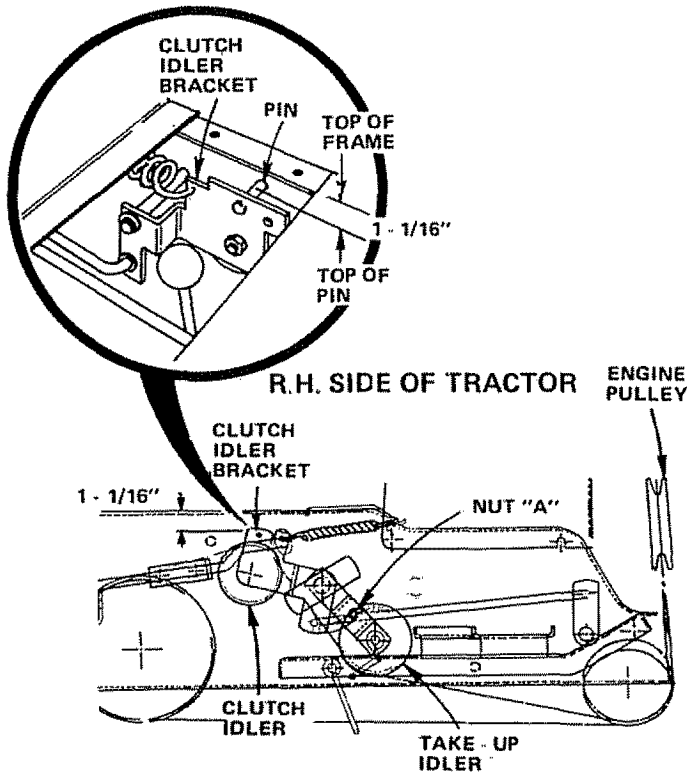

FIGURE 51
- Check position of Clutch Idler Bracket (Fig. 51).
- Repeat steps b thru e until a 1 - 1/16" dimension is obtained between top of Pin and top of Frame as shown in Fig. 51.
- Reinstall Shift Cover Plate and (4) Screws removed in step a.